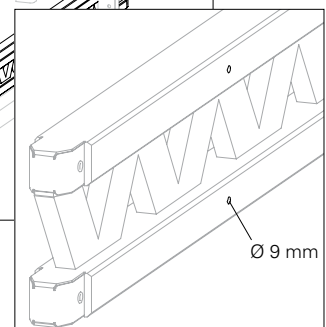

Fig. C2.02a
2. Pre-drill girder, here GT 24 (**75**), according to the drilling plan using $\varnothing 9$ mm. (Fig. C2.02a)